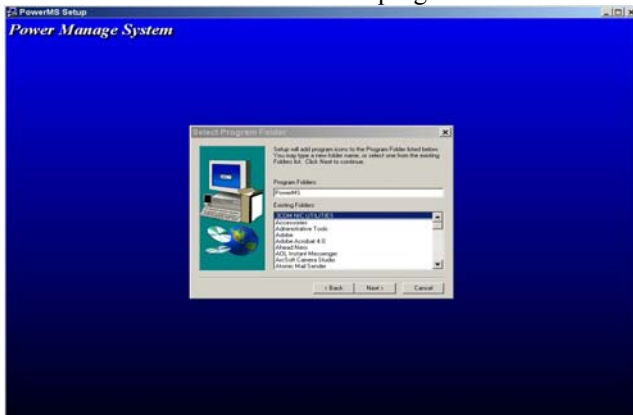

Fig. 3-6 The Program Folder window
3.1.6 Fig. 3-6 displays a list of existing program folders and the default program folder named “ARRAY/ELECTONIC” where the program will be installed.